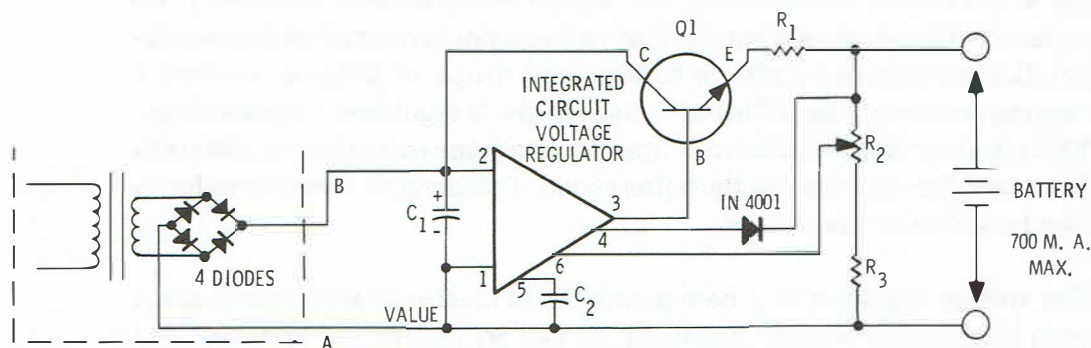

Figure 3-17
A typical, solid-state, constant voltage float charger is shown in Figure 3-17. This particular constant voltage charger uses an integrated circuit (IC) as a positive voltage regulator. This circuit includes a current limiting resistor,  $R_1$ , in series with the transistor output which limits the maximum battery charging current to 0.7 amps. The maximum current can be increased or decreased by varying the resistor value. The output voltage, for example, 2.3 volts per cell, is determined by the setting of potentiometer  $R_2$ . Resistors may be substituted for the 2.5 k potentiometer once the proper value output value has been determined. Output voltage can be set initially by using a 1 k ohm, 1-watt load resistor in place of the battery. The series pass transistor,  $Q_1$ , must be adequately heat-sinked for a maximum temperature rise above ambient of 150°F (65°C).